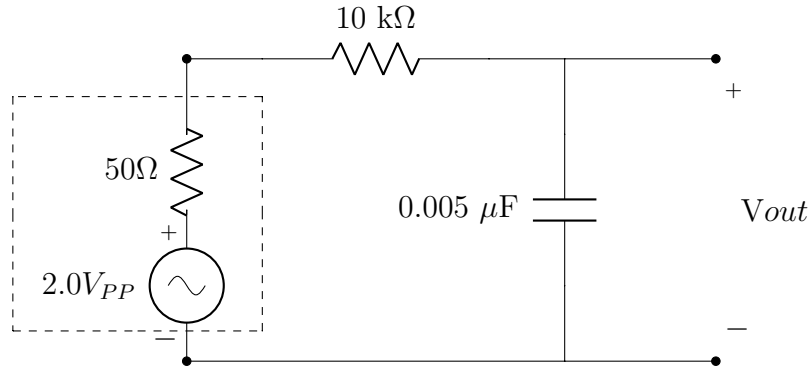

Figure 7.2: Low-pass Filter
2. Set up the circuit as shown in Figure 7.2. Use the function generator FGEN for the supply voltage.